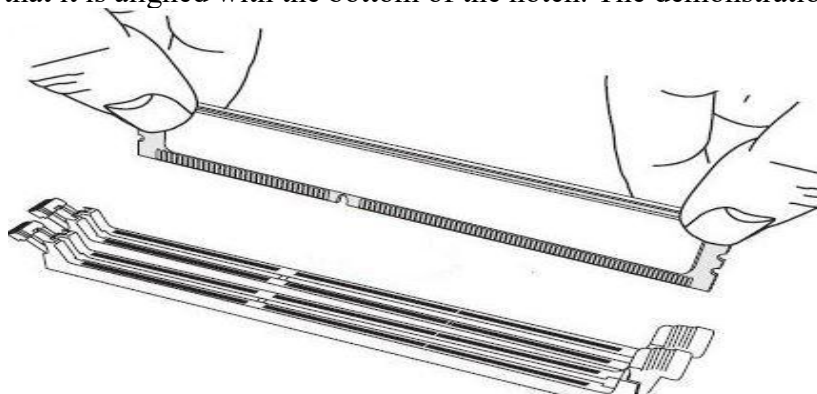

Fig. 3.9
**Note:** when install or remove the memory module, be careful to prevent any possible damage to the memory or its respective slots. Install: insert the memory module vertically and press the memory slot snap position, noting that it is aligned with the bottom of the notch. The demonstration is shown in Fig. 3.9: